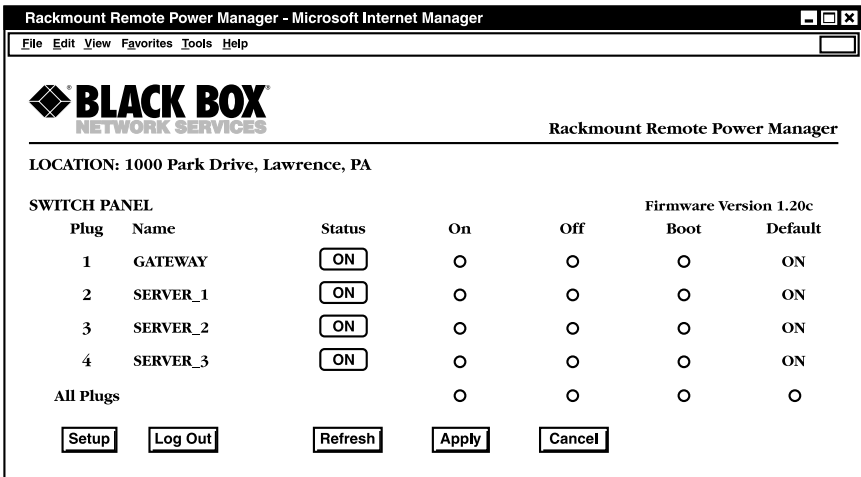

Figure 2. Plug Status screen—Web-browser interface for PS580A and PS581A.
- a) From the Web-browser interface, start your JavaScript enabled Web browser. Enter the Rackmount Remote Power Manager's default IP address (`http://192.168.168.168`) in your browser's address bar, then press **[Enter]**. A password prompt will be displayed. Since at this point the user name and password have not yet been defined, simply click on **OK** without typing in a user name or password. The Rackmount Remote Power Manager's Plug Status screen appears as shown in Figure 2.